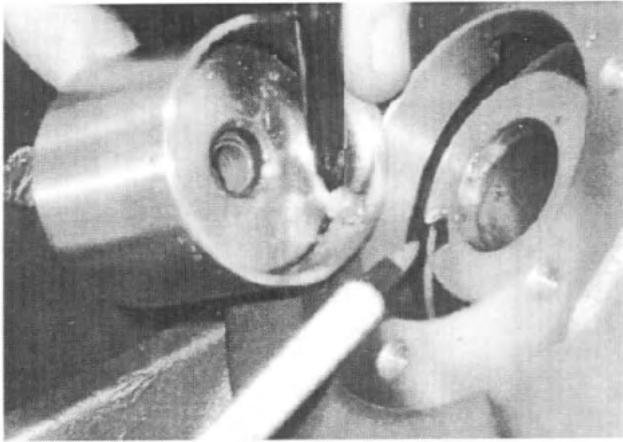

Fig. 109
1. Without the pressure relief spring installed, position the pump cartridge assembly onto the end of the intermediate shaft. See Fig. 109.
⚠ CAUTION: THE CARTRIDGE PIN MUST MATE WITH THE SLOT ON THE INTERMEDIATE SHAFT. *SEE FIG. 109.*